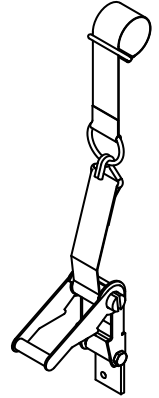
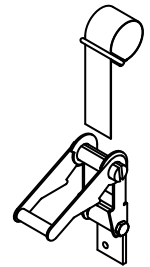
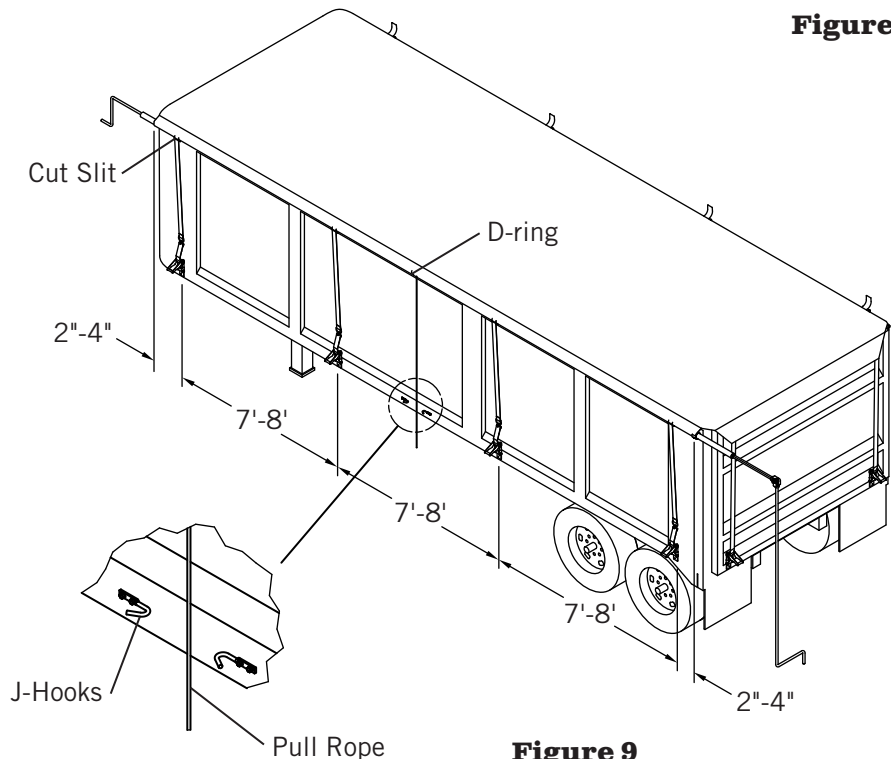

Figure 7
Figure 8
Figure 9
- 1) Figures 7 & 9.** 2"-4" from edge of tarp, cut slit in tarp and wrap strap around the roll pipe.
- 2) Figure 7.** Release ratchet strap completely and hook onto D-ring. Pull down on the ratchet, mark the location, making sure there is enough slack to remove the hook from the D-Ring
- 3)** Drill pilot holes and attach with (2) 3/8" x 1" HWH Type F bolts.
- 4) Figure 9.** Space ratchets evenly down side of trailer.
- 1) Figures 8 & 9.** 2"-4" from edge of tarp, cut slit in tarp and wrap strap around the roll pipe.
- 2) Figure 8.** Pull down on the strap, place the ratchet so the end of the strap can clearly go through the slot in the ratchet and mark the location.
- 1) Figure 9.** Wrap the rope around the D-ring centered along the length of the tarp. Tie rope firmly to D-ring.
- 2) Figure 9.** Place J-hooks in an easy-to-reach location. Drill pilot holes and attach with #14 x 1" tek bolts.